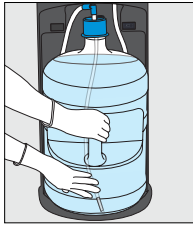
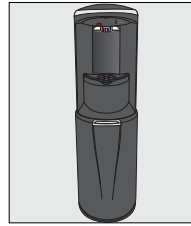

Figure 21
Figure 23
9. Slide bottle into cabinet and close the door (Figure 21 to Figure 23) (slide door downwards to close)